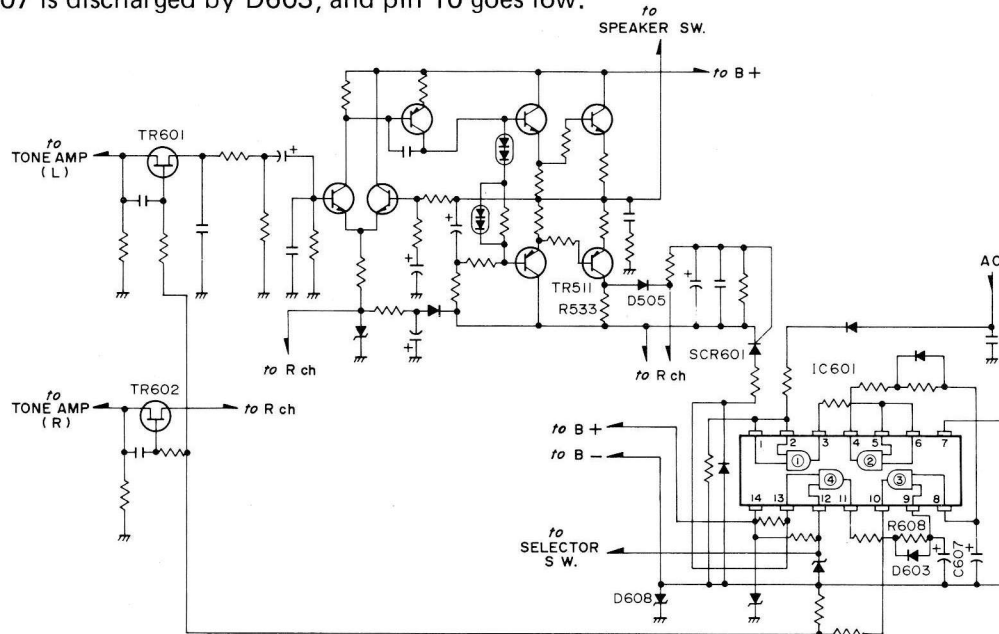

Figure 3
3. Speaker terminal is shorted/low impedance speakers are used (Figure 3)